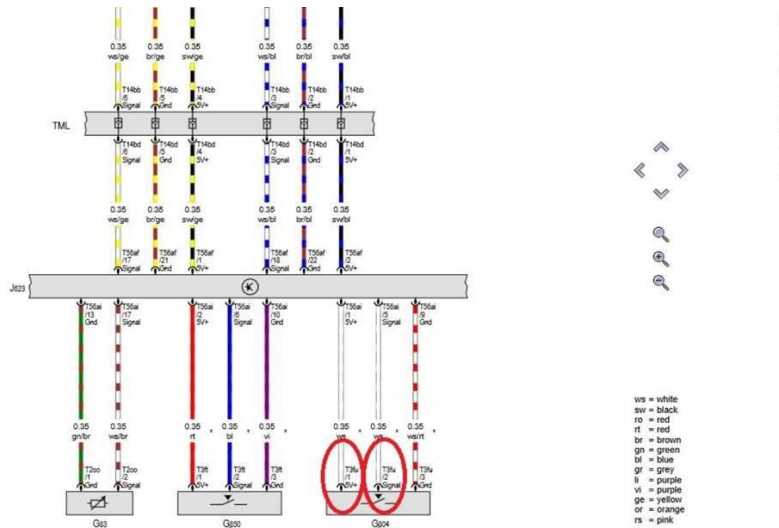

Figure 3
1) Refer to Wiring diagram 106/18 within Elsa pro (Figure 3)
2) Should the terminal locations **NOT** be as shown in Figure 3, the terminals should be reallocated within plug as per the wiring diagram